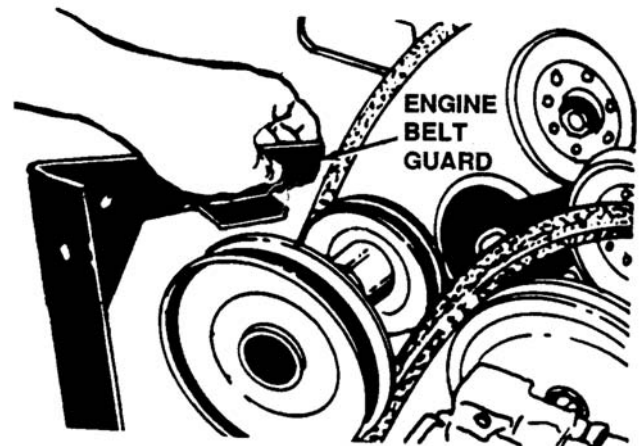

Figure 4-22. Location of Engine Belt Guard
8. Remove two hex bolts, nuts and lock washers from the engine pulley belt guard at rider frame to allow the engine pulley belt guard to drop down out of the way. See Figure 4-22.